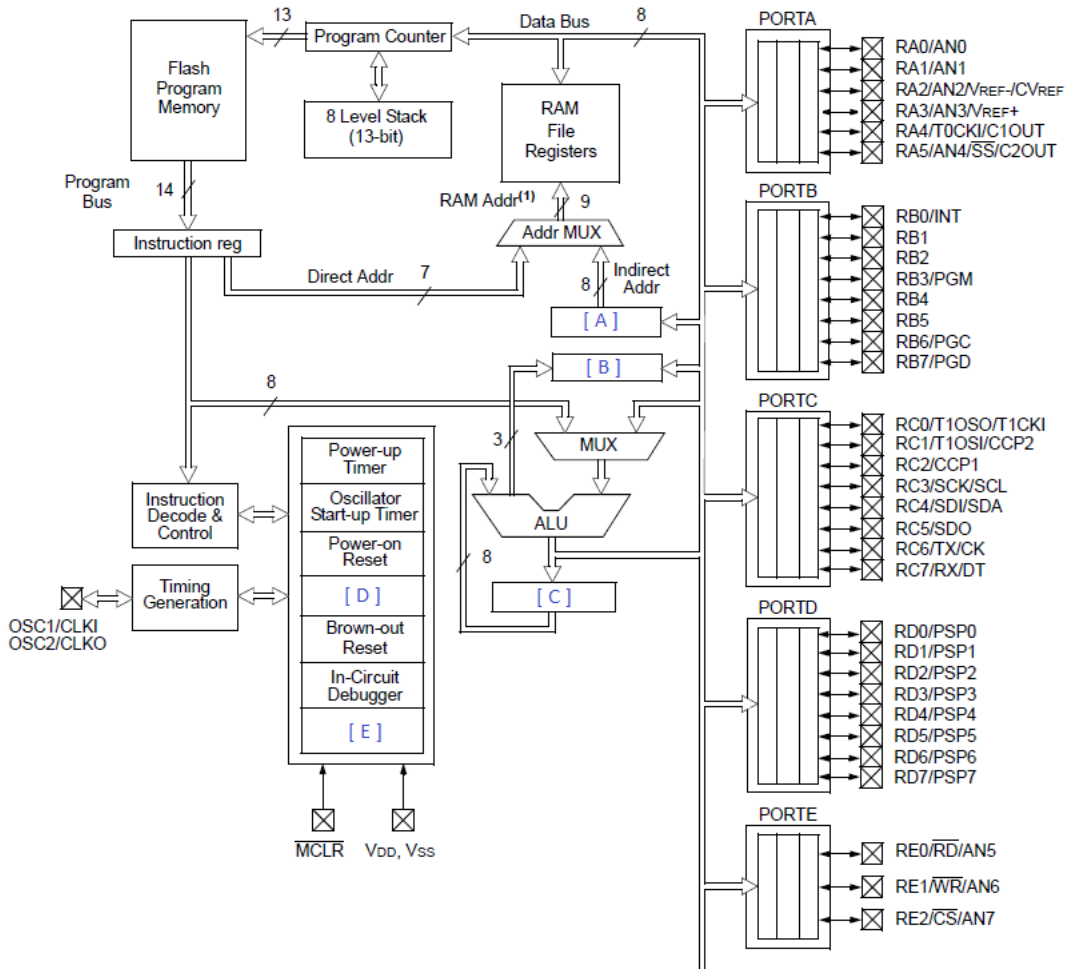

Figure 2(a): PIC16F877A Block Diagram
a) Figure 2(a) shows an internal architecture of PIC16F877A. Name and explain each of the labelling as shown in in the block diagram below.